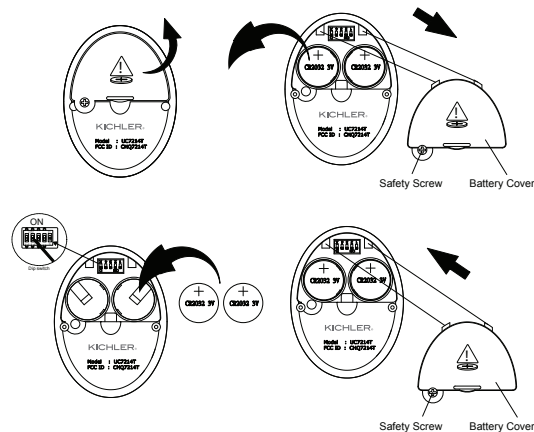

Fig. 22
**Step 1.** To remove or replace the batteries, loosen the safety screw and remove the battery cover from the back of the transmitter to access the battery compartment. (Fig. 22)
**NOTE: If replacing batteries, make sure to install the new CR2032 3V batteries with the + side facing up.** (Fig. 22)
Reinstall the battery cover to the back of the transmitter and tighten the safety screw. (Fig. 22)